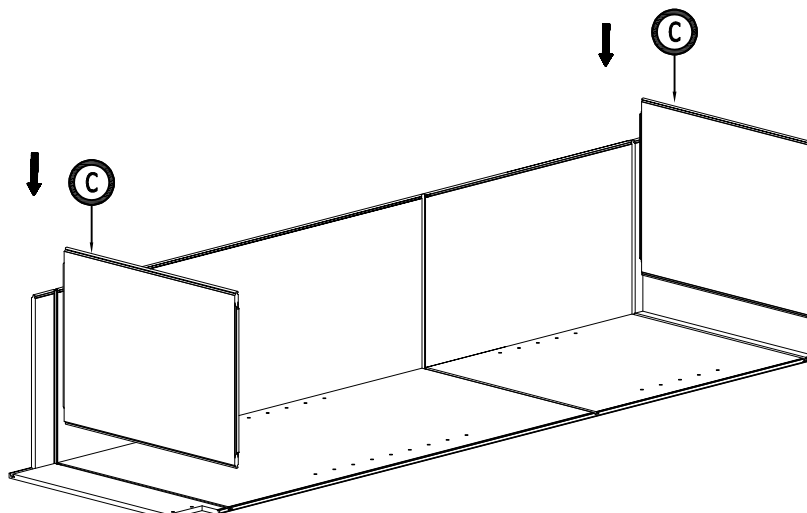

Figure 3
3. Installing the Top, Bottom panel: Insert top, bottom (C) into grooves of back panel (B) & side panel (A). Press down until they click into place. (Figure 3)